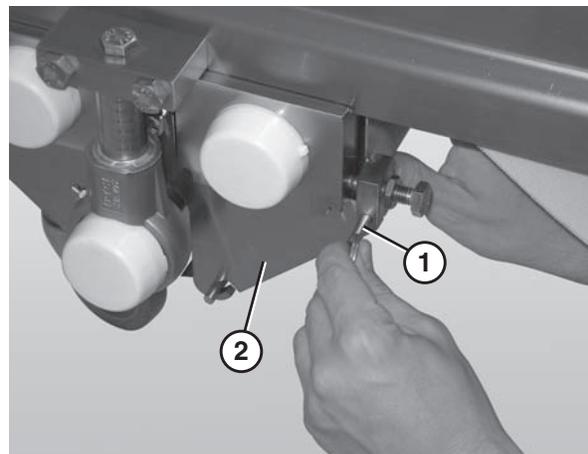

Figure 45
2. Remove the pull pins (Figure 45, item 1) from the center drive side plate (Figure 45, item 2).